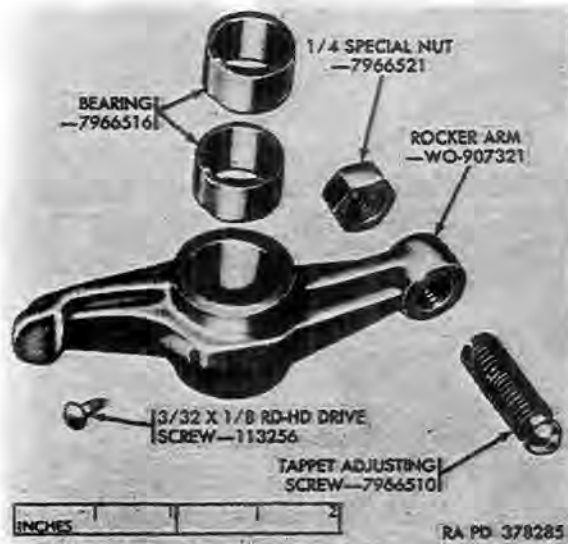
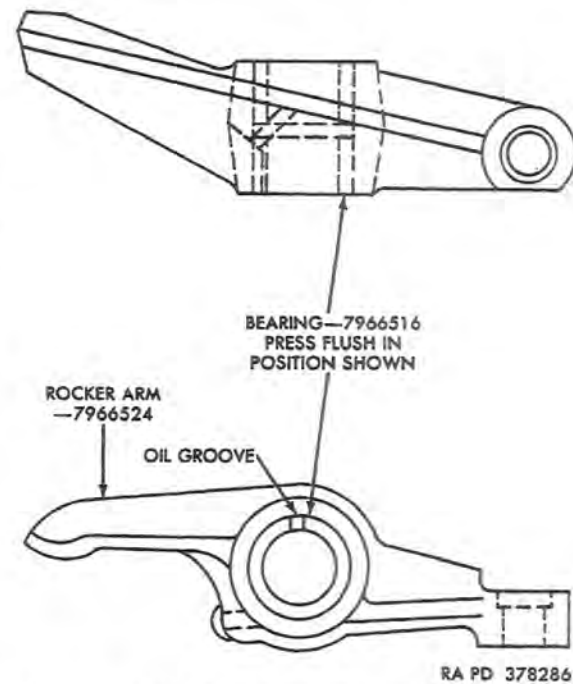

Figure 58. Intake valve rocker arm—Exploded view.
Figure 59. Installed position of valve rocker arm bearing.
a. Rocker Arm (fig. 58). Examine rocker arm for damage. Remove minor nicks and burs with a fine
b. Rocker Arm Bearing Replacement Procedure. Press defective bearings from rocker arm (fig. 58). Position a new bearing in bore (fig. 59) and press into rocker arm flush with outer face. Follow same procedure for installing bearing in opposite side of rocker arm. Bore the assembled bearings to limits specified in repair and rebuild standards (par. 140).